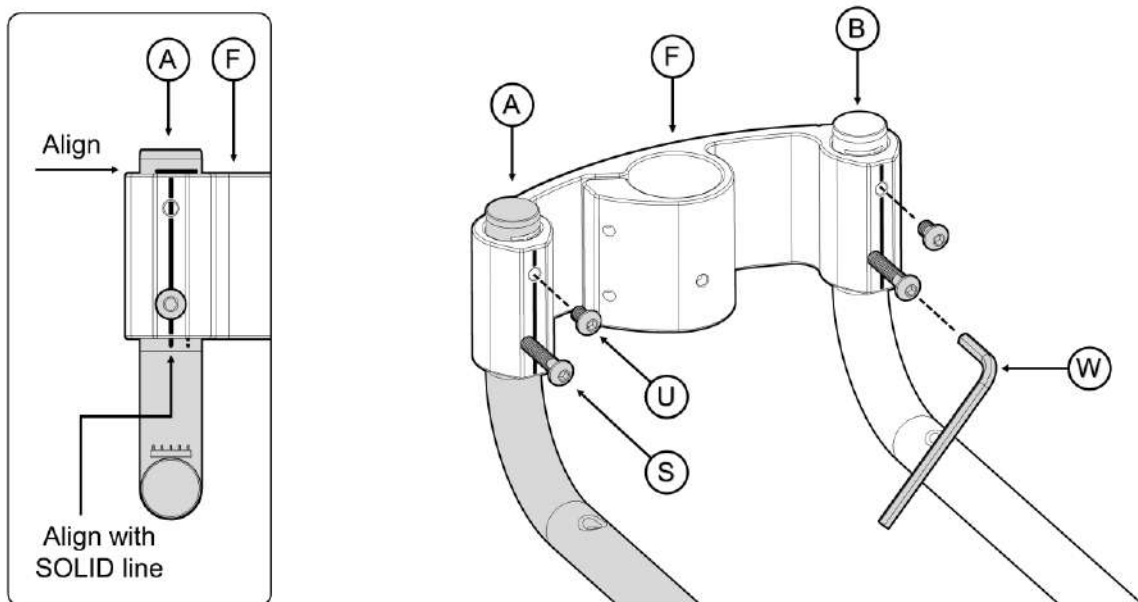

FIGURE 13
- Align top edge of **F** with horizontal line on leg **A**. Align holes on **F** with SOLID line on **A**. Screw in **S** and tighten firmly with tool **W**. Insert **U** into upper hole and tighten firmly. Repeat for leg **B**. Legs should be parallel to one another when assembled. **FIGURE 13**